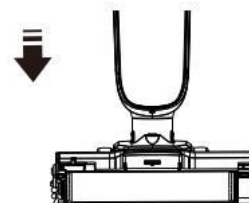

Figure 4-17
Installation: Put the roller brush on the right axle and press the roller brush down, the roller brush unlock button is equipped with a buckle positioning, and the assembly is completed when you hear the "click", as shown in Figure 4-17.
B. Put the whole machine into the base assembly, as shown in Figure 4-17, at this time, the panel power display light flashes, and the machine enters the charging state;